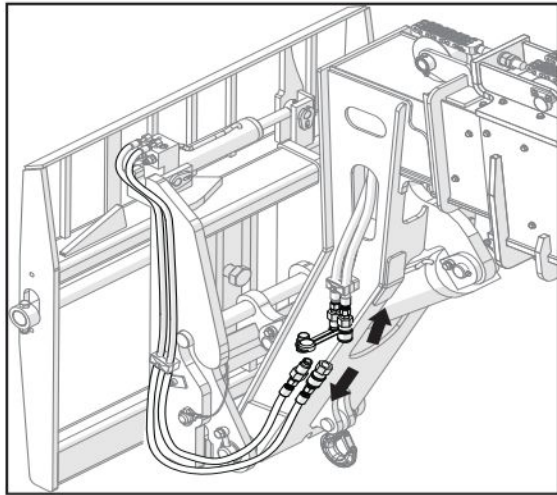

Figure 45 Auxiliary Hydraulics disconnection
5. After the locking device is installed, disconnect the auxiliary hydraulic hoses and cover them with the existing caps. Refer to figure 45.